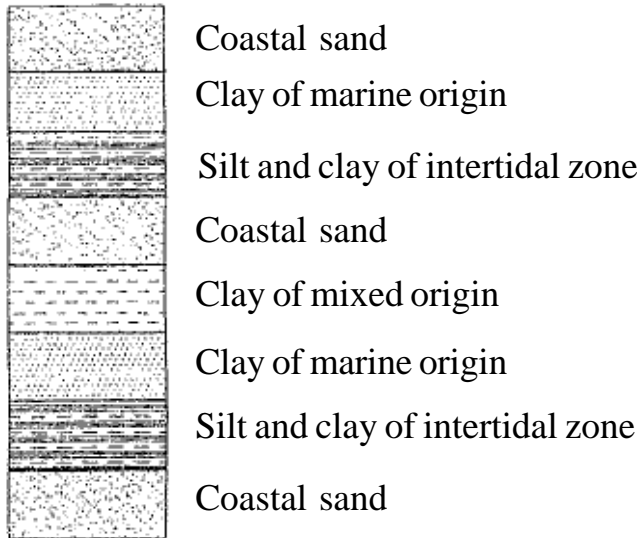

Figure : 0.1
6. a) Following sedimentary sequence is encountered. (F During preliminary investigations (Figure : 0.1). Reconstruct the chronology of events based on emergence and submergence of coast. Discuss in brief the geological conditions promoting the regression and transgression of sediments. **10**